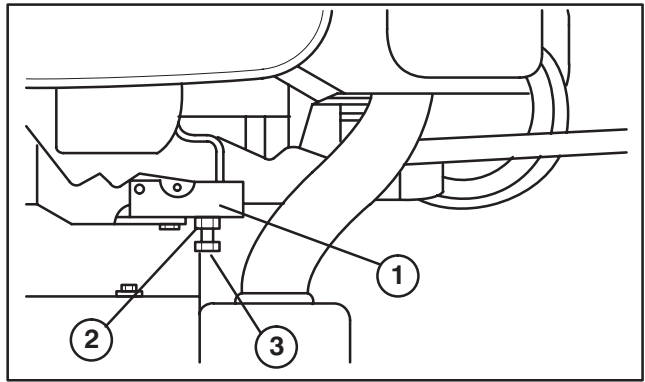

Figure 47
- A. Loosen jam nut on governor arm adjusting screw (Fig. 47).